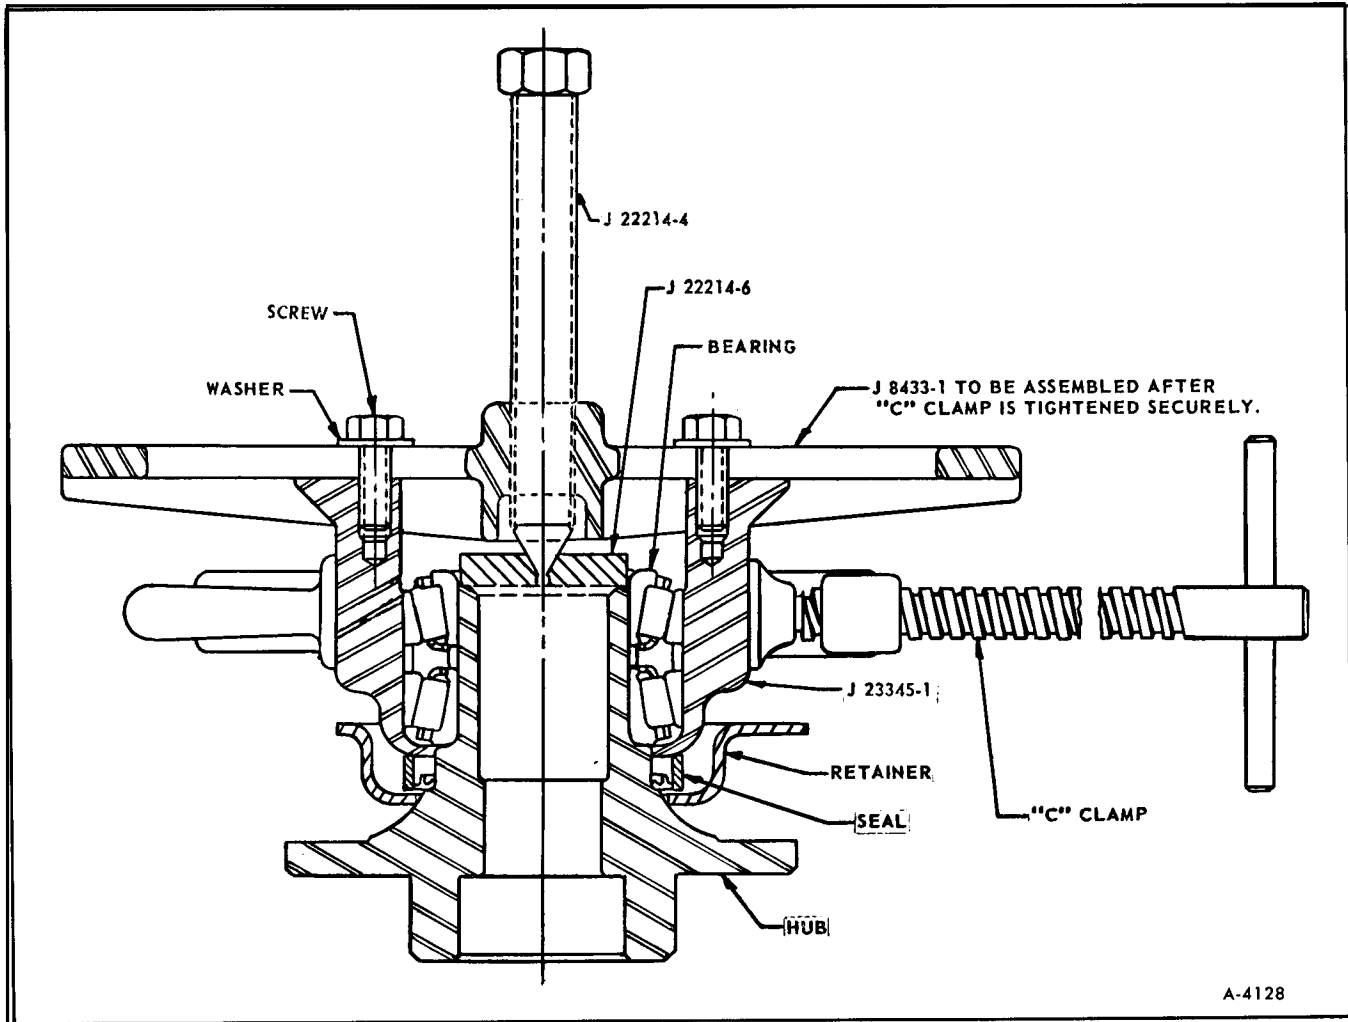

Figure 9—Bearing Removal
3. Position tool assembly as shown in Figure 9.
4. With Tool No. J-22214-6 in place, and a clamp in position as shown in Figure 9, tighten center screw until bearing is free of hub.